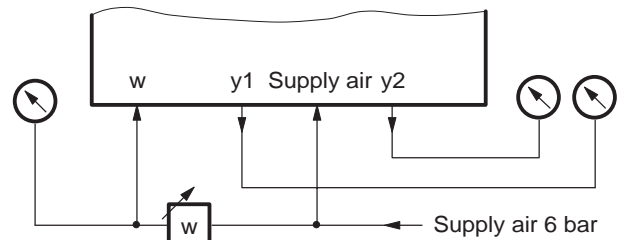

Fig. 36: Test circuit
- g) Connect the positioner as shown in the test circuit in Fig. 36. Connect supply air of 1.4 bar.